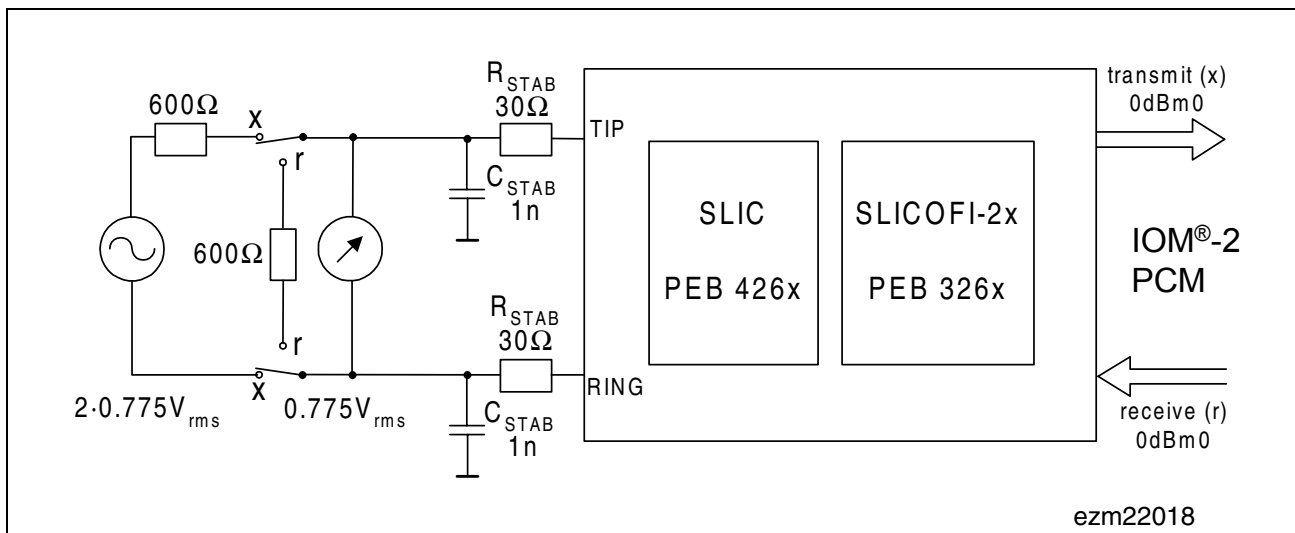

Figure 71 Signal Definitions Transmit, Receive
*Note: To ensure the stability of the SLIC output buffer, R_{STAB} and C_{STAB} must be set to the values $R_{STAB} = 30\ \Omega$ and $C_{STAB} \geq 300\text{ pF}$ (1 nF in the test circuit **Figure 71**). For electromagnetic compatibility, C_{STAB} must be set to the much higher value of $C_{STAB} = 15\text{ nF}$.*